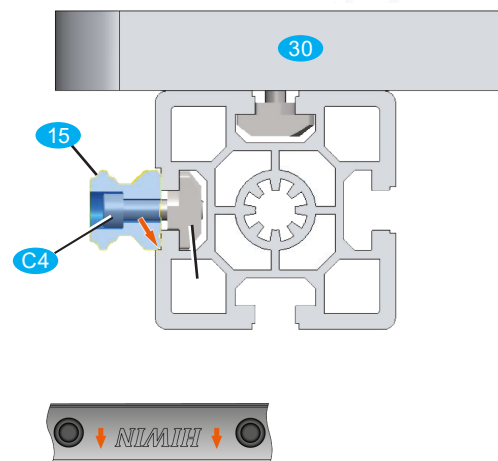

Fig. 4: Assembly of linear rails; Note the stop edge
- Screw the linear rail (15) to the profile with cylinder head screws M5x20 (C4) and slot 10 T-nuts M5 (J1); the reference edge of the linear rail marked with an arrow must be in contact with the milled stop edge of the profile over its entire length (see Figure 4).